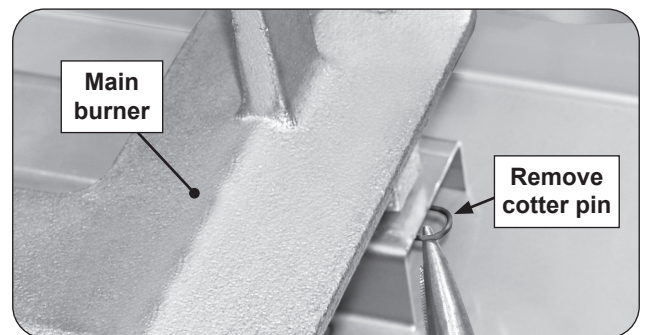

Fig. 40-2 Remove cotter pin
2. Locate and remove the cotter pin from the left or right rear burner anchoring peg by pulling it straight out of the cotter pin hole using fingers or needle-nose pliers. See Fig. 40-2.